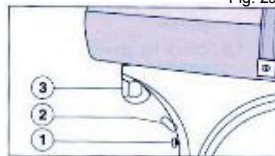

Fig. 30
- 6.3 **Choke control knob (Fig. 30):** Located below the fuel cock. To be used for starting the engine when it is cold. Pull the choke knob out-wards for operation. Pull out the choke control knob to operate it. It must be pushed back in when the engine has warmed up.